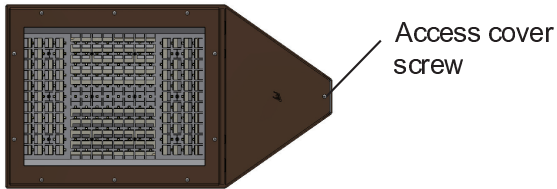

FIGURE 1
- 3. Remove access panel by turning access cover screw CCW (counterclockwise). See Figure 1.